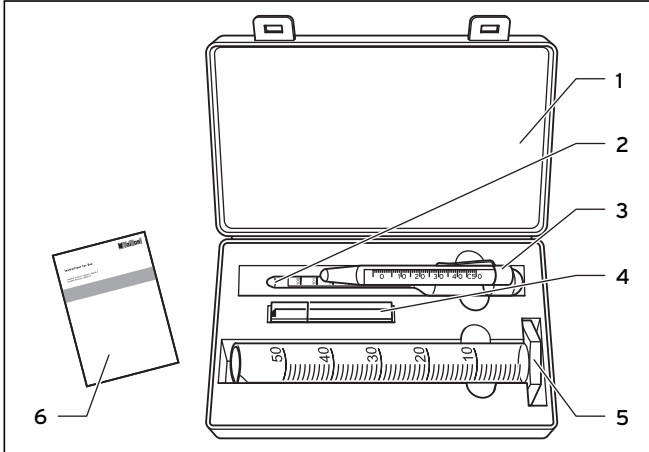

Fig. 3.1 Scope of delivery of the frost protection tester
- Dip the thermometer (3 in Fig. 3.1) into the solar fluid.